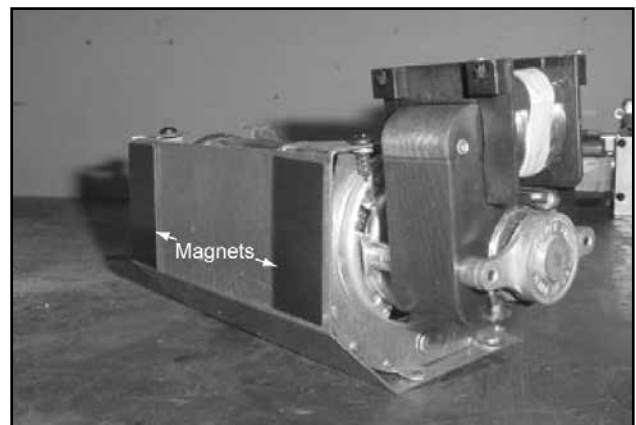

Figure 6 Magnets
- Attach the foam tape (Figure 5) and magnets (Figure 6) to the fan. Cut one magnet strip in half and save the remaining strip for control module.